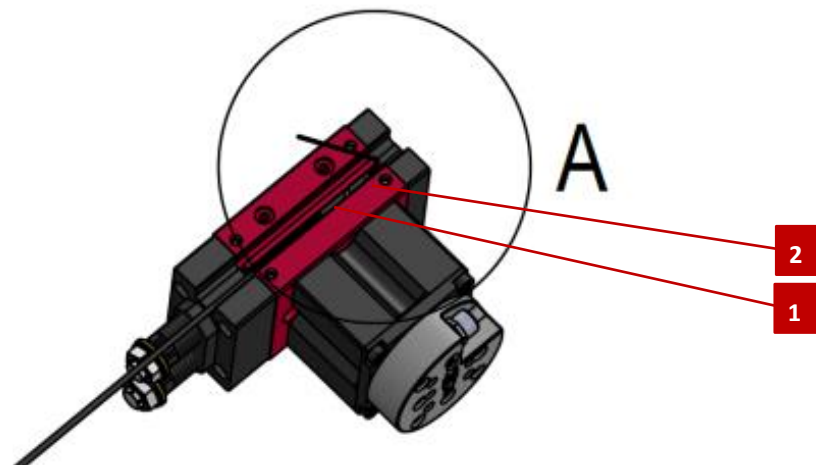

Fig. 20 Magnetic field sensor (example illustration)
1. Loosen screw (Fig. 20, 2).
2. Remove the built-in sensor (Fig. 20, 1).